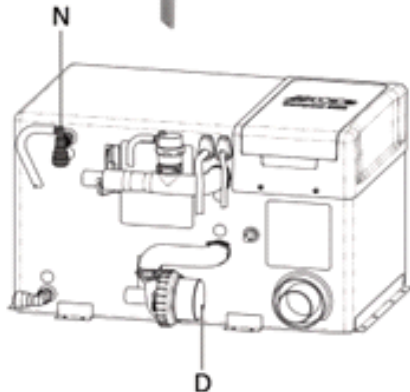

Fig 2
Check that the breather valve (Fig.2 [N]) is allowing air to enter the hot water cylinder when it is being drained, and that the clear plastic hose is not obstructed.
- Set the 12v inline circulation pump on the side of the boiler to speed 5 (Fig.2 [D]): by turning the blue speed dial clockwise, on the face of the pump motor. NB: Speed is not adjustable if using the 12v circulation pump fitted in the expansion tank.
The Alde Compact 3030 boiler (fig 2) can get hot during operation. Do not place items on or around the Alde Compact boiler unit.